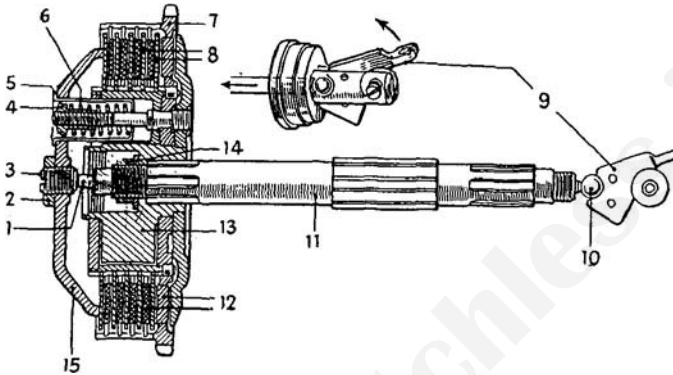

FIG. 73. DETAILS OF A.M.C. MULTI-PLATE CLUTCH AND OPERATING MECHANISM (1957 MODELS)
1957 A.M.C. Clutch Adjustment. All 1957 A.J.S. models have a four-speed gearbox and multi-plate clutch made by Associated Motor Cycles, Ltd. (see page 116). Details of the clutch and the clutch operating-mechanism are shown in Fig. 73. To avoid clutch slip or drag (caused by insufficient or excessive free movement of the cable), it is essential to maintain 1/8 in. - 3/16 in. free movement of the clutch operating-cable.
To check for the correct free movement of the clutch operating-cable, lift the outer casing where it enters the adjustable cable-stop on the cover of the kick-starter casing. Total up-and-down movement should be as stated in the previous paragraph. To rectify insufficient free movement of the operating cable (caused by wear of the friction inserts causing the plates to close up), first loosen the lock-nut and slacken off the adjustable cable-stop on the cover of the kickstarter casing. Next remove the domed cover (secured by eight screws) from the oil-bath chain case (Fig. 62) and, referring to Fig. 73, with the sparking-plug spanner provided in the tool kit, loosen the lock-nut (2). Then with a screwdriver unscrew the thrust cup (3) a turn or two, and afterwards carefully screw it in until you feel it contacts the end of the long thrust-rod (1). Having done this, unscrew the thrust cup (3) exactly one-half turn, re-tighten the lock-nut (2)*, and screw home firmly the domed clutch-cover. Finally adjust the cable stop until the required free movement (1/8 in 3/16 in.) of the operating cable is obtained, and re-tighten the cable stop lock-nut. Check for backlash at the clutch lever on the handlebars.
To rectify excessive free movement of the clutch operating-cable, loosen the lock-nut on the adjustable cable-stop and, referring to Fig. 73, screw in the stop as far as possible to ensure that the operating lever (9) is in its normal position. Next remove the domed clutch-cover from the oil-bath chain case and slacken the lock-nut (2).
KEY TO FIG. 73
If it does, screw home a further half turn each adjustment nut, being most careful to adjust each nut exactly the same amount. Note that the standard adjustment for spring tension (1945-56 clutches) is to tighten fully all the adjustment nuts and then slacken back each nut four complete turns. The standard adjustment on 1957 clutches is to screw home the three adjuster nuts until they are just flush with the clutch-spring cups (see Fig. 73). A very suitable tool for tightening the clutch-spring adjustment nuts is an old and broad screwdriver, slotted on the engaging edge. For 1952 and later models a slotted screwdriver is provided on one of the thin spanners in the tool kit.